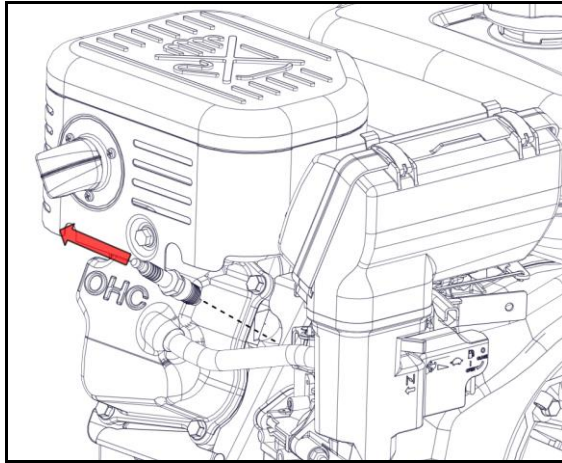

Figure 7 – Removing spark plug
- 2) Remove the spark plug by rotating it counter-clockwise (Figure 7).